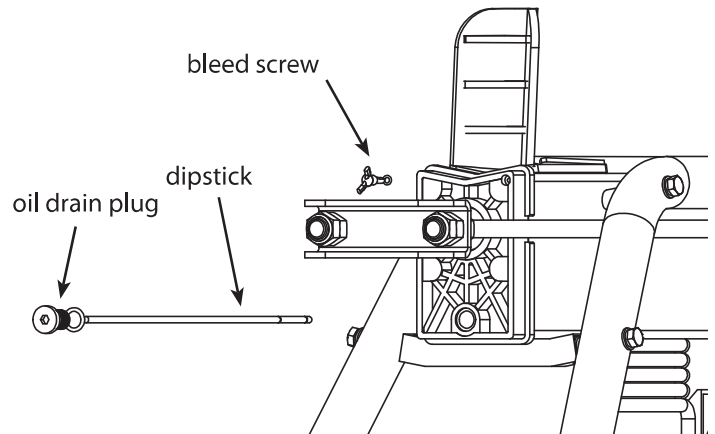

Figure 8
2. Remove oil drain bolt and dipstick. Make sure bleed screw is closed tight. **(SEE FIGURE 8)**